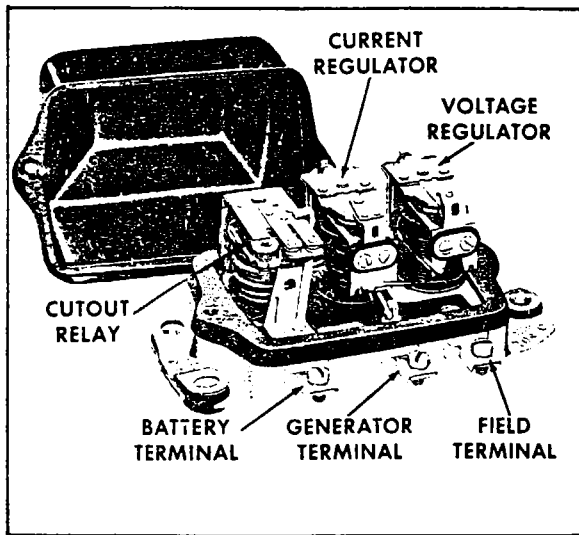

Figure 11-6. Current/Voltage Regulator
11-25. **DESCRIPTION OF REGULATOR.** The regulator shown in Figure 11-6 consists of a cutout relay, a voltage regulator and a current regulator unit. The cutout relay closes the generator to battery circuit when the generator voltage is sufficient to charge the battery, and it opens the circuit when the generator slows down or stops. The voltage regulator unit is a voltage-limiting device that prevents the system voltage from exceeding a specified maximum and thus protects the battery and other voltage-sensitive equipment. The current regulator unit is a current-limiting device that limits the generator output so as not to exceed its rated maximum.
a. The cutout relay (Refer to Figure 11-6.) has two windings, a series winding of a few turns of heavy wire and a shunt winding of many turns of fine wire (shown in dashed lines). The shunt winding is connected across the generator so that generator voltage is impressed upon it at all times. The series winding is connected in series with the charging circuit so that all generator output passes through it. The relay core and windings are assembled into a frame. A flat steel armature is attached to the frame by a flexible hinge so that it is centered just above the stationary contact points. When the generator is not operating, the armature contact points are held away from the stationary points by the tension of a flat spring riveted on the side of the armature.
a. The voltage regulator (Refer to Figure 11-6.) has two windings assembled on a single core, a shunt winding consisting of many turns of fine wire
a. The current regulator (Refer to Figure 11-6.) has a series winding of a few turns of heavy wire which carries all generator output. The winding core is assembled into a frame. A flat steel armature is attached to the frame by a flexible hinge so that it is just above the core. The armature has a contact point which is just below a stationary contact point. When the current regulator is not operating, the tension of a spiral spring holds the armature away from the core so that the points are in contact. In this position the generator field circuit is completed to ground through the current regulator contact points in series with the voltage regulator contact points.